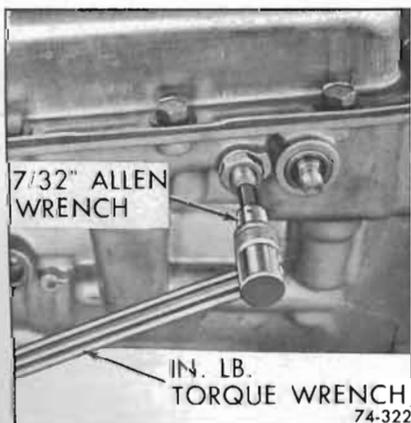

Figure 74-322
1. Remove adjusting screw cap. Adjust low band by first tightening adjusting screw to 40 in. lbs. torque. See Figure 74-322.